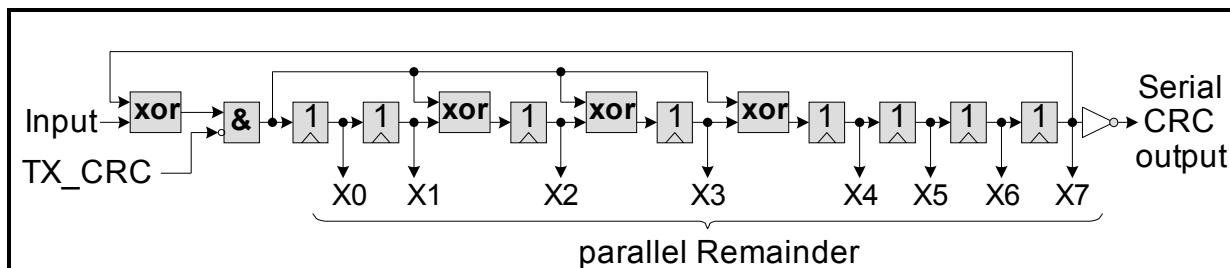

Figure 13 Fast CRC Polynomial Division Circuit
- Generator Polynomial: $X^8 + X^4 + X^3 + X^2 + 1$, the fast CRC generation circuit is used for CRC generation. (See Figure 13)
Figure 13 shows the fast CRC Polynomial.